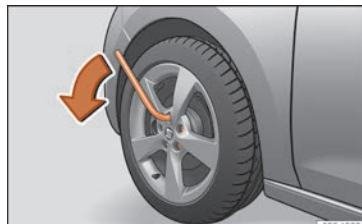

Fig. 77 Wheel: loosen the wheel bolts.
- Turn the wheel bolt approximately one turn to the left »» Fig. 77 (arrow). To apply the required torque, hold the wheel brace at the end. If it is not possible to loosen a wheel bolt, carefully apply pressure with one foot on the end of the box spanner. Hold on to the vehicle for support and take care not to slip.